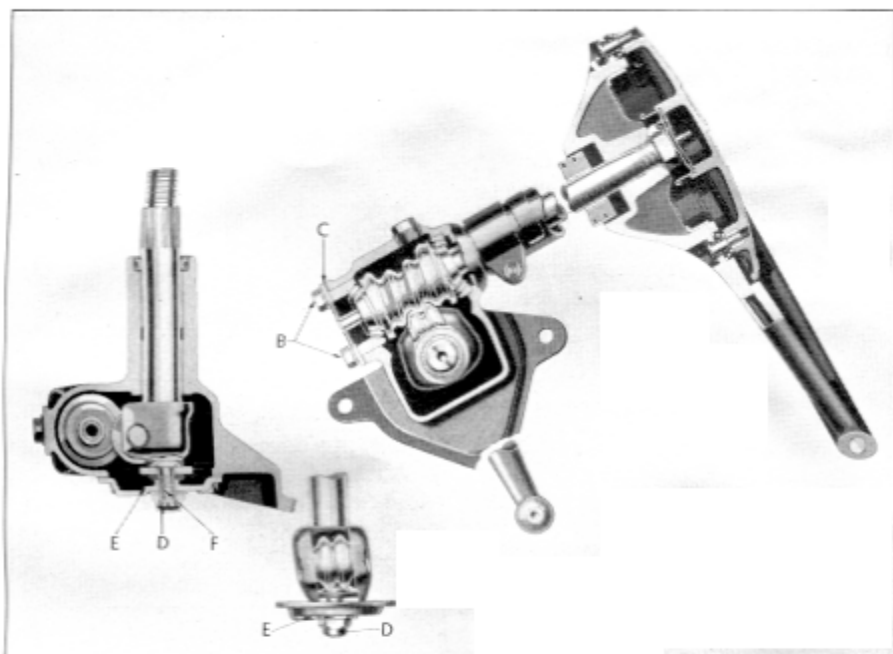

Figure 38
The steering gear, Figure 38, is of the hour glass worm and needle bearing double roller tooth design, mounted on the left frame side member, with the steering pitman arm near the center line of the car.
Loosen four cap screws (B), Figure 38 (two not shown). Separate shims (C) with sharp knife blade, being careful not to mutilate them. Remove one shim at a time to obtain proper end play. Tighten cap screws, being careful not to bind bearings. Revolve steering wheel to determine if any stiffness exists. If so, too many shims have been removed or gear is misaligned in car.
To adjust mesh, remove cap (D) and slide off lock plate (E) to clear lock boss on gear housing cover. Place steering wheel in straight ahead driving position. Turn adjusting screw (F), Figure 38, into the housing for closer mesh. Back off screw just enough to prevent binding. Check end play by grasping steering gear arm. It is preferable to have a slight amount of play at this point rather than a binding. Set lock plate (E) in position and install cap (D).